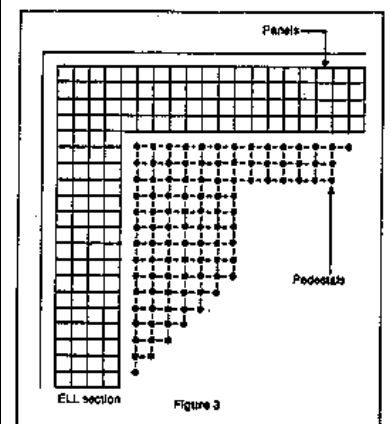

Figure 3
STEP 8. Beginning again at the start point, lay four rows of panels along the longest wall. Check to see that you are staying on control lines, and that panels do not rock. (See figure 3.)
STEP 10. After laying the first four rows of panels along the long wall, begin again at the starting point and lay four rows of panels perpendicular to the first rows. (See figure 3.) Follow the same previous steps (8 through 9) for laying panels and be sure to follow the control lines. If you do not stay on the control lines, the floor will not be square and your grid lines will not be straight. After laying in the ELL section, check and re-check to be sure it is square. When you are certain the ELL is square, continue to install rows until the ELL becomes a rectangle or square. While you are laying panels in this area, you should have someone spreading, shooting, leveling and preparing the next adjacent area for panels.